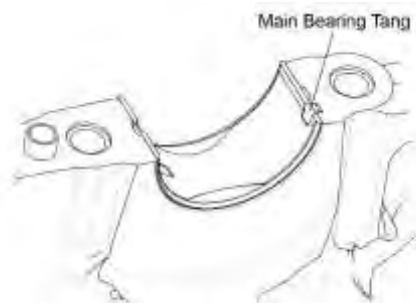

Figure 74
- A. Install crankshaft bearings Nos. 2, 3, and 4 in the crankcase halves. Make sure the tangs are seated in the lock slots (Figures 74 and 75).
- C. Install the two new O-rings (Figure 74).